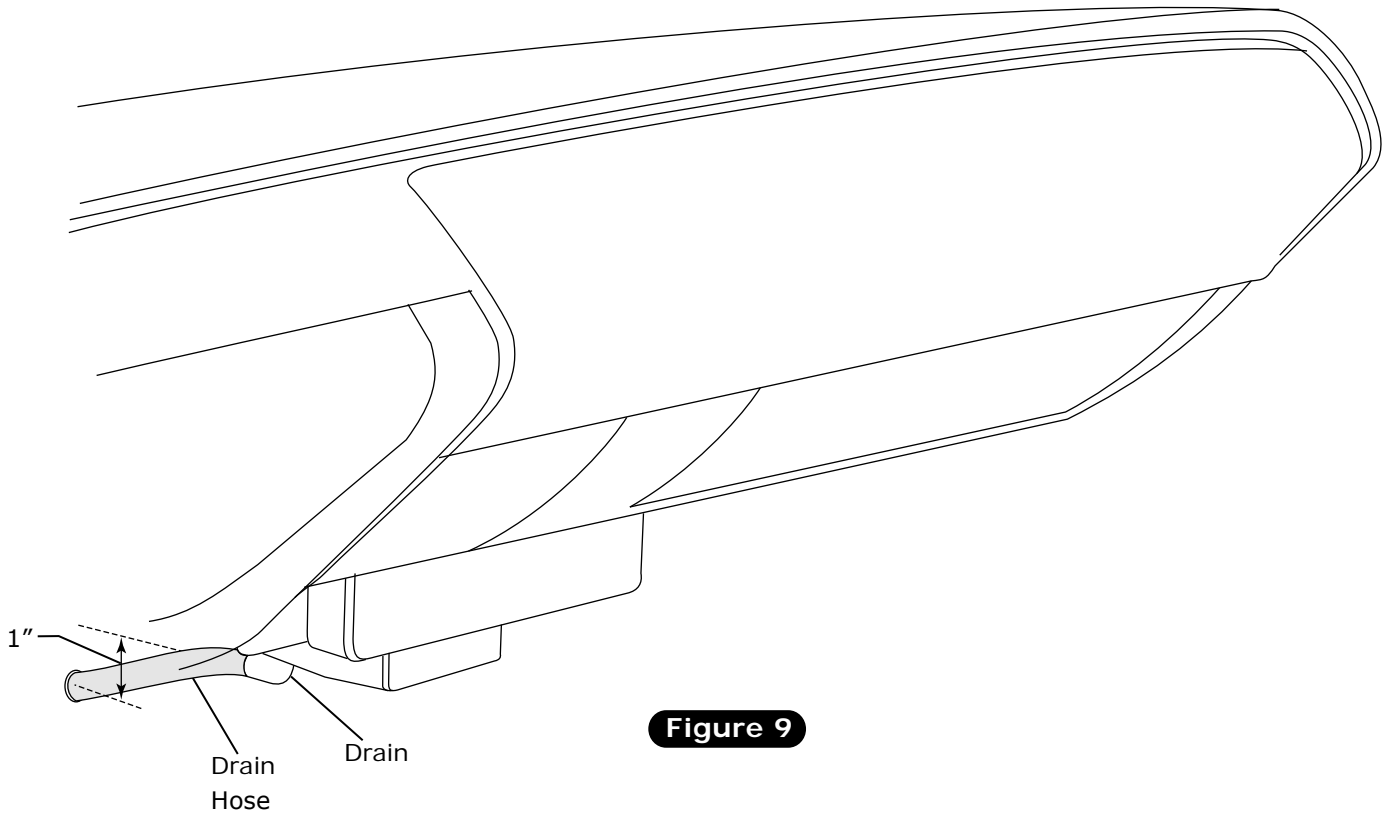

Figure 9
1. In line with the drain, lightly make a mark on the firewall. Measure one inch down and drill a 5/8" hole through the firewall (See Figure 9, below).
2. Install drain hose to bottom of evaporator unit and route through firewall (See Figure 9, below).